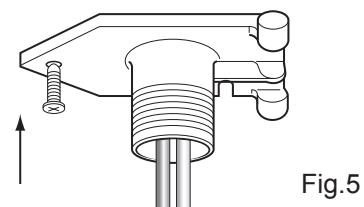

Fig.5
- 13) Install the Quick Cable Connection as before. (Fig.5)